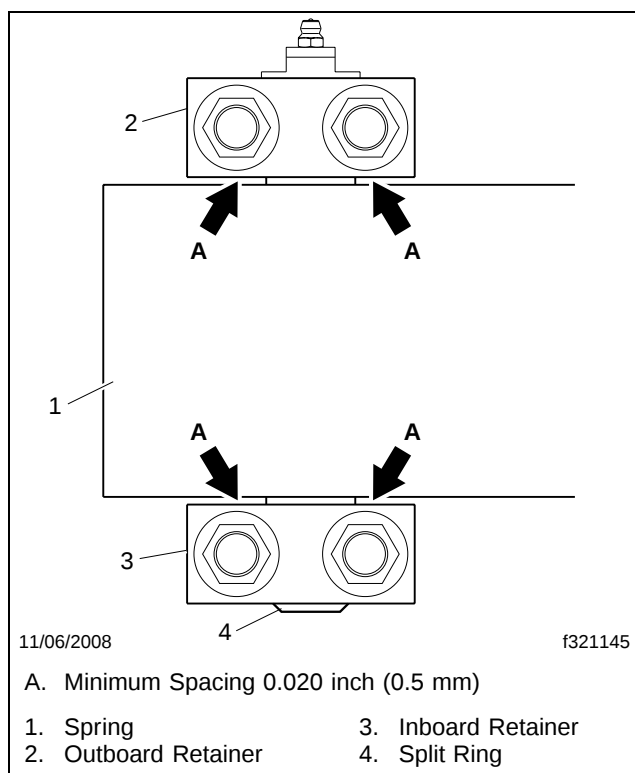

Fig. 4, View From Underneath the Forward Spring Eye
18.1 Using the threaded spring pin to adjust the position, center the front spring pin in the drive bracket. The nominal gap on each side is 0.063 inch (1.60 mm). Maintain a minimum gap of 0.020 inch (0.5 mm) on each side. See **Fig. 4**.